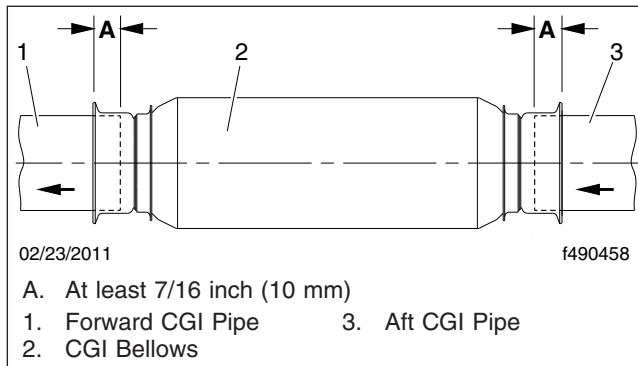

Fig. 11, CGI Bellows Installation
12. Slide the new bellows onto the aft CGI pipe as far as it will go. See Fig. 11, Ref. A. Measurement A should be at least 7/16 inch (10 mm) past the face of the flange.
16. Using the yellow marks, center the bellows between the exhaust pipes. Verify that the pipe is inserted at least 7/16 inch (10 mm) past the face of the flange. See Fig. 11, Ref. A.